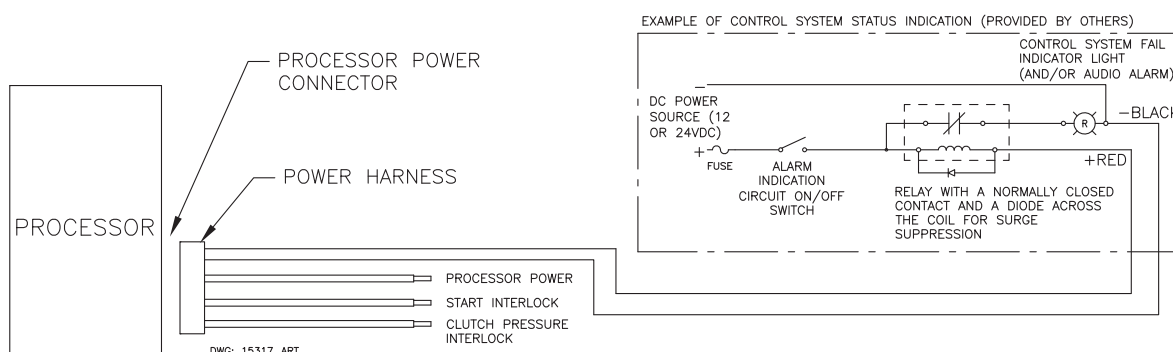
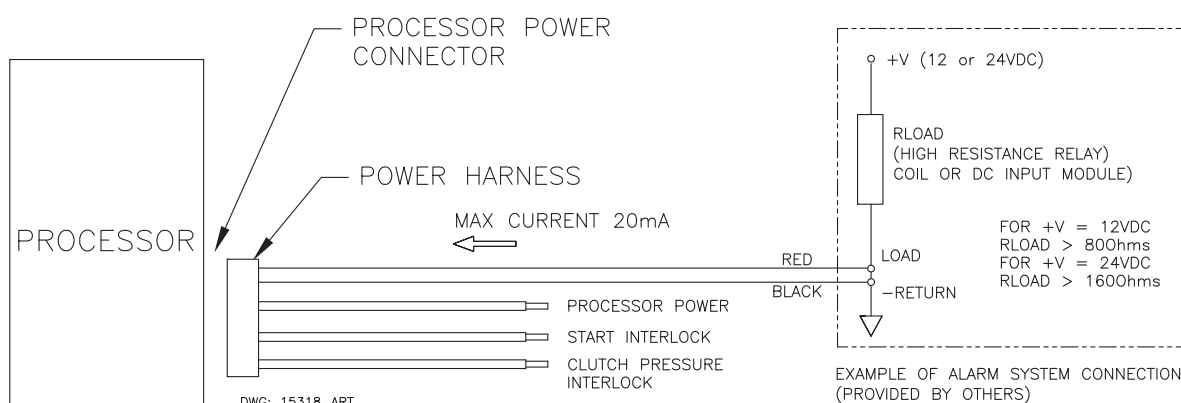

Figure 8-1: External Alarm Connections Processor Hard-Wired Example
Figure 8-2: External Alarm Connections Processor Hard-Wired Example
(Refer to Figure 8-1: External Alarm Connections Processor Hard-Wired Example or Figure 8-2: External Alarm Connections Processor Hard-Wired Example)
- Figure 8-1: External Alarm Connections Processor Hard-Wired Example and Figure 8-2: External Alarm Connections Processor Hard-Wired Example are an example of a suitable circuit, but not necessarily the only circuit acceptable.
- C Connect the black and red conductors to the Status Indication Circuit as shown in Figure 8-1: External Alarm Connections Processor Hard-Wired Example or Figure 8-2: External Alarm Connections Processor Hard-Wired Example.